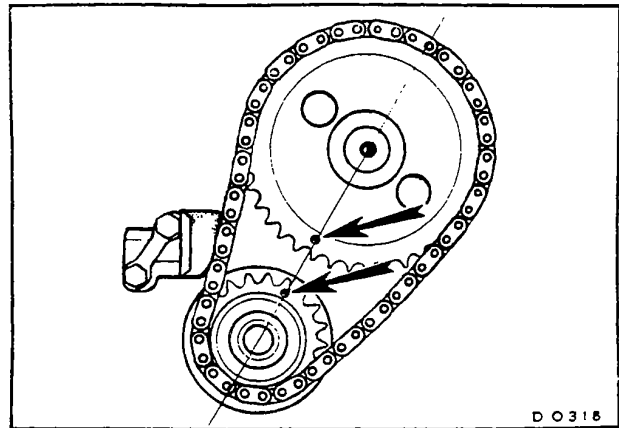

Fig. 1
8. Position the gear wheel timing marks as shown in Fig. 1.